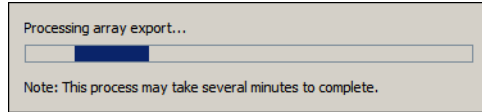

Figure 14-105 Processing array export
5. The export array wizard then begins the export procedure as shown in Figure 14-105 on page 396.